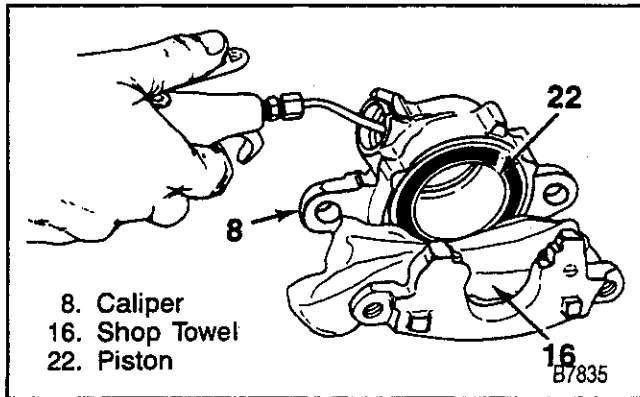

Figure 11—Removing the Piston
3. Piston (22).
- Direct compressed air into caliper fluid inlet (figure 11).